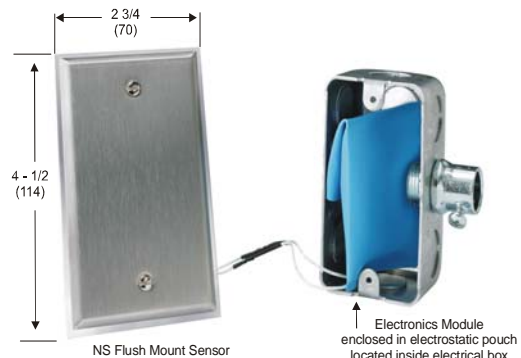

Figure 1: Installing a Flush-Mount Network Sensor to the Conduit Box
5. Install the electronics board inside of the non-conductive pouch. Fold the pouch and place it inside the electrical utility box (Figure 1).